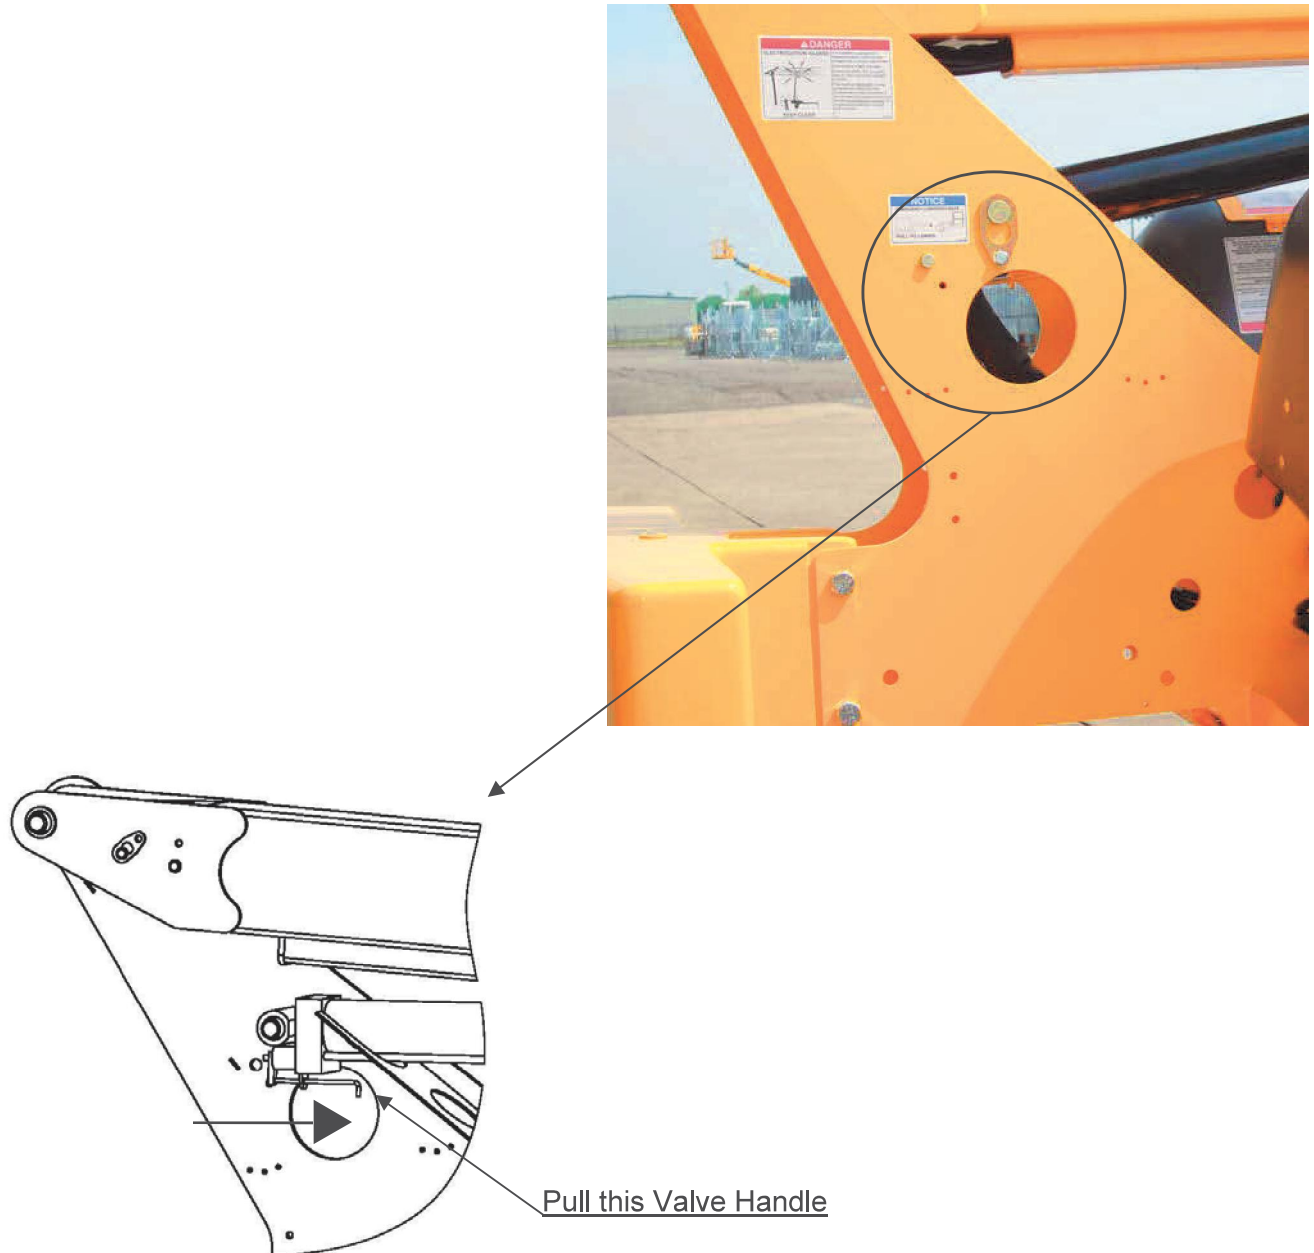

Figure 3-8. Manual Boom Lowering Valve
The lift cylinder is equipped with a **MANUAL LOWERING VALVE**; this valve is found at the base of the lift cylinder. Use the **VALVE HANDLE** to lower the platform in case of a complete electrical power failure, a load shift, or any other emergency. To lower the work platform, pull the **VALVE HANDLE** forward, and continue pulling until the boom is completely lowered. Refer to Figure 3-8.
- Lift the **RELEASE LEVER** on the **TRAILER HITCH**, and lower the hitch onto the ball using the **TONGUE JACK / DOLLY WHEEL**. Push down on the **RELEASE LEVER** to secure the ball. Refer to Figure 3-8.